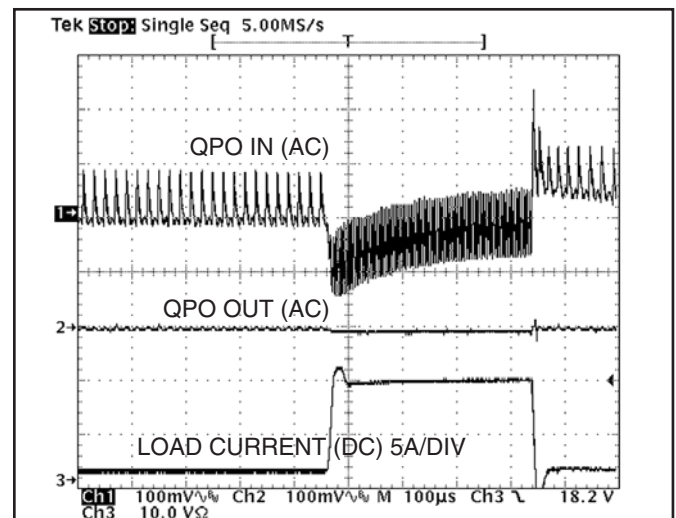
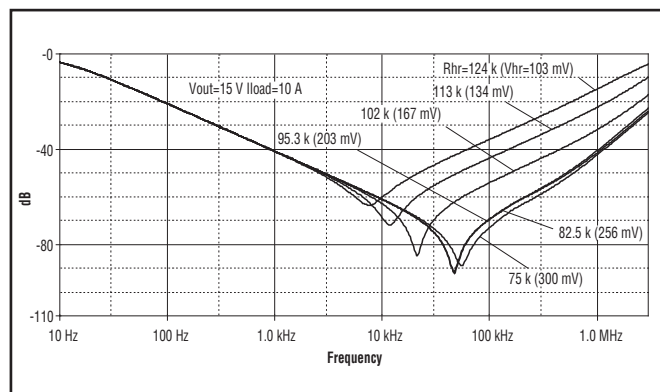

Figure 2 – Typical performance with a 3.3 Volt converter, showing 1 to 10 A load step.
Figure 6 – Attenuation for different headroom settings with value of R_{HR} and (V_{hr}) .
The scope photo in Figure 2 is an example of the ripple reduction and transient load improvement provided by the QPO-1.
The QPO-1's closed loop architecture greatly improves load transient response of the converter while ensuring steady-state precise point of load voltage regulation. The headroom setting of the QPO-1 filter dramatically reduces the capacitance needed at the converter output to provide equivalent transient performance and ripple reduction. Figure 2 demonstrates how the QPO-1 can be an ideal solution for noise sensitive applications providing ripple and noise reduction and improved output regulation with high transient loads.
Figure 6 shows the headroom versus attenuation relationship of the QPO-1 for a 15 Volt output. This relationship is relatively constant over the full output voltage rating of the QPO-1 so Figure 6 can be used to select headroom voltage for any converter output voltage in the 3 to 30 Volt range of the QPO-1.
The final headroom voltage selection should be based on the maximum expected ripple, desired attenuation and transient response needed. Formulas for the slope adjust Rsa and Rsc values will be provided in their respective sections. **The headroom adjustment shown in Figures 6 and 7 show increasing headroom voltage will increase the attenuation over the range of 10 kHz to over 1 Mhz.**
To ensure sufficient headroom during a transient load change additional headroom voltage may be required to provide margin and cover the instantaneous drop in the converter output. In the example shown in Figure 2, an additional 75 mV was included with the headroom value selected from the graph in Figure 6 to cover the transient drop-in the supply output during the 10 Amp step.
In this example 300 mV was chosen as a reasonable value to set the headroom (V_{hr}) since it is at the point of diminishing returns based on the attenuation graph in Figure 6. To stay within the dynamic range required by the active loop during the load transient, a total of 375 mV was used in the R_{HR} formula to determine the value of the R_{HR} resistor. The peak detector will dynamically add 30 mV (derived from the 60 mV peak to peak input ripple) to the static headroom setting, providing the total dynamic headroom of approximately 405 mV with the detector enabled.
- No slope adjust, no peak detect, fixed headroom, attenuation vs headroom graph in Fig. 6 and 7 apply